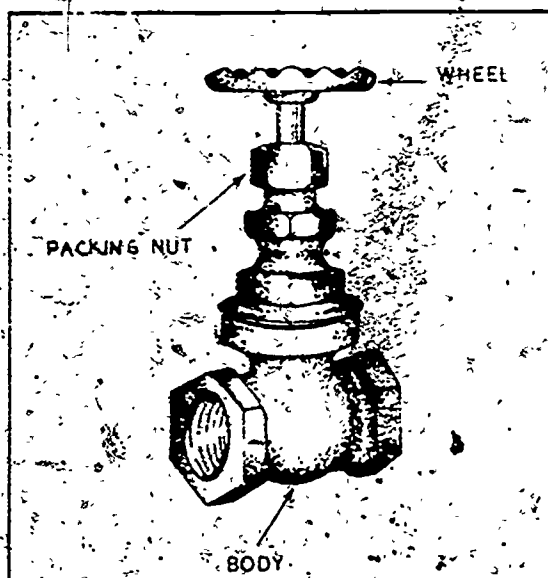

Figure 1-13 Gate valve
**Water Supply system materials.** After the pipe runs and the sizes of the pipes are indicated on the working drawings, the proper sized fittings for connecting the pipes can easily be determined. The selection of valves for controlling the flow through the system presents a more complex problem. A well planned plumbing system has valves located throughout the system for controlling the flow. The risers or pipes that are concealed in the walls or floors should be equipped with shutoff valves for use in emergencies or while repairing the pipes. The gate valve, shown in figure 1-13, is used whenever a positive cutoff is desired. These valves are designed for use in systems where they are fully open or fully closed. Gate valves are never used to throttle the flow in a line. If they were used for throttling, the gate disc would chatter and soon wear until it would not stop the flow when seated.